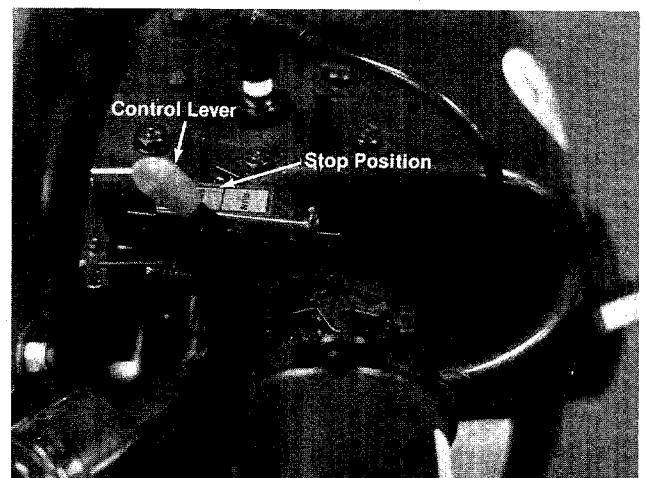

FIGURE 8.
1. Move control lever to STOP position. See figure 8.